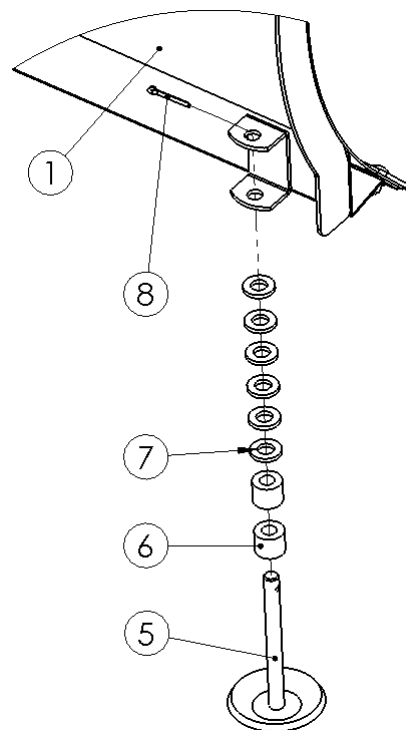

Figure 4
- 4) Install the Skid Feet with Rubber Bushings and 5/8" Flat Washers as shown in Figure 4. The height of the Skid Feet can be adjusted based on the location of the Rubber Bushings and 5/8" Flat Washers.